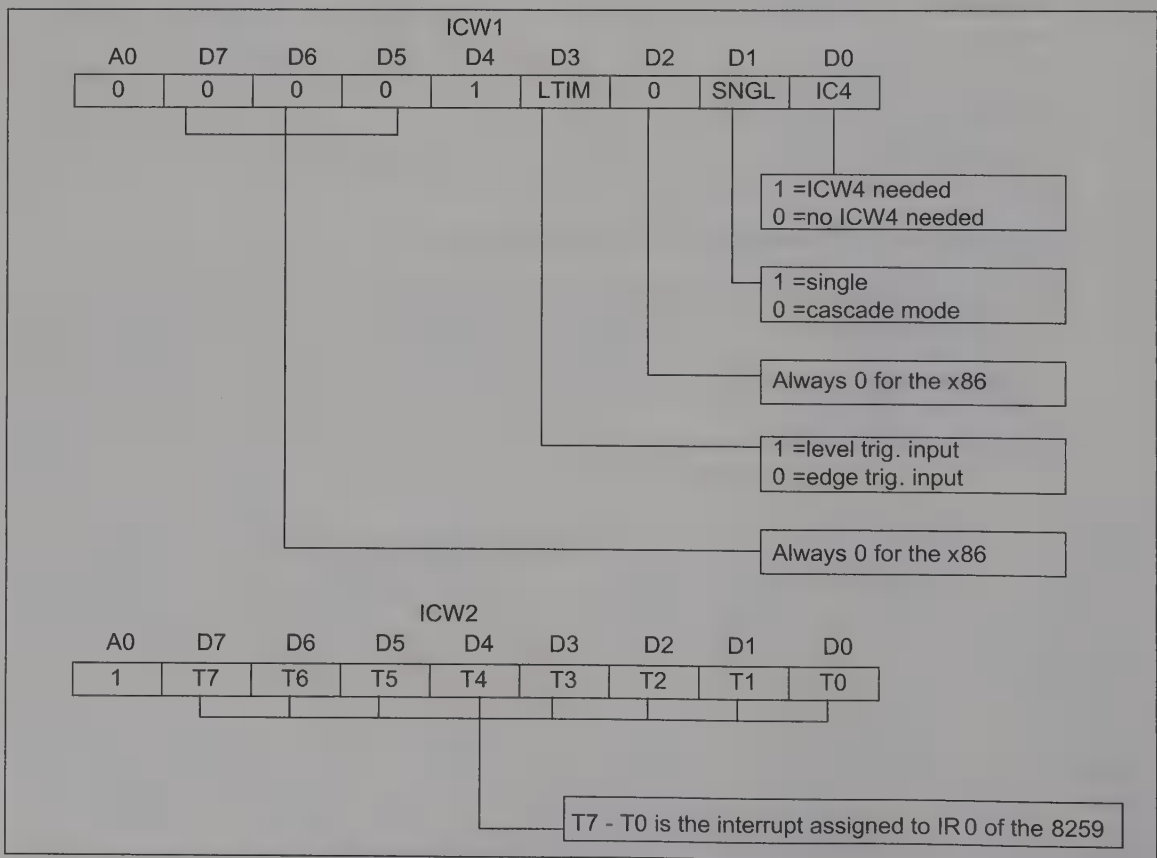

Figure 14-5. ICW Formats (ICW1 and ICW2) for the 8259
and finally the last one, if needed. There is no jumping ahead. D2 is always set low (= 0) for the x86. D3 chooses between level triggering or edge triggering of the input signals IR0–IR7. In edge triggering, a low-to-high input is recognized as an interrupt request. In level triggering, a high on the IR is recognized as an interrupt request. D4 must always be high. D5, D6, and D7 are all low for the x86 microprocessors (they are used only for the 8080/85). See Figure 14-5.
It is the function of ICW2 to assign interrupt numbers to IR0–IR7. While the lower three bits, D0, D1, and D2, vary from 000 to 111, they, along with D3–D7 (T3 through T7), form the 8-bit INT type number assigned to the corresponding IR0 through IR7. That means that D3–D7 can only be programmed according to the assignment of the INT type, with the lower bits being provided by the 8259, depending on which interrupt of IR0 to IR7 is activated. See Figure 14-5.
- (a) From Figure 14-5, we get the following for each of the ICWs:
This gives ICW1 = 00011011 = 1BH. To get ICW2, look at Table 14-4. Always equate ICW2 to the INT # assigned to IR0: ICW2 = 01010000 = 50H. Notice that "INT nn", assigned to IR0, can decide only bits D7–D3 (T7–T3 in Figure 14-5) of ICW2. This means that the "INT nn" assigned to IR0 must have the lower three bits = 000; therefore, it can take either values of X0H or X8H, where X is a hex number. For example "INT 45H" cannot be assigned to IR0.